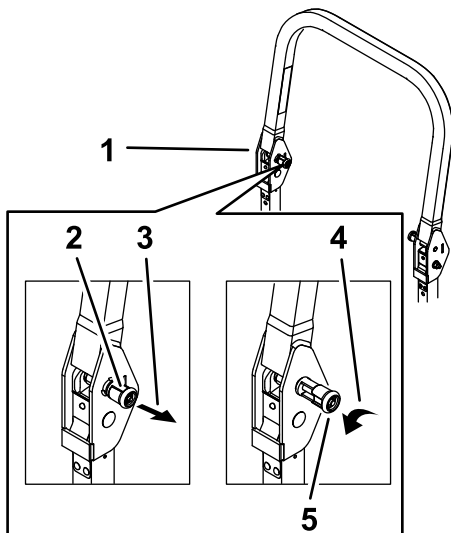

Figure 1
1. Pull the knob and rotate 90° to the unlatched position (Figure 1).
2. Raise the roll bar to the operate position, and rotate the knobs so that they move partially into the grooves (Figure 1).
3. Raise the roll bar to the full upright position while pushing on the upper roll bar and the pins snap into position when the holes align with the pins (Figure 1).